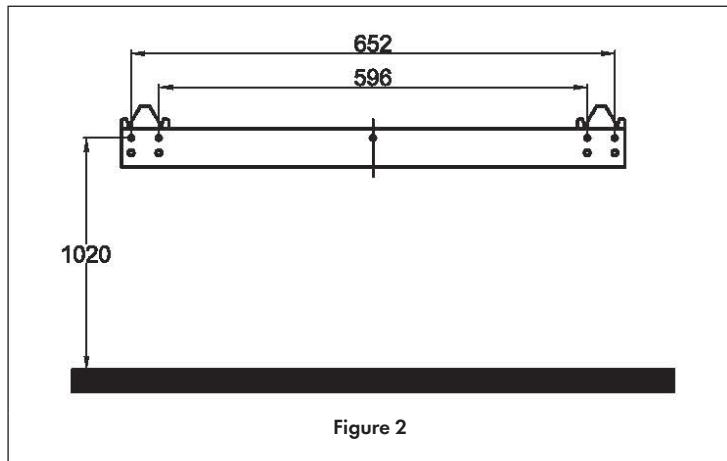

Figure 2
- A height of 60 cm from bottom of heater to floor is recommended for optimum viewing of fuel bed (see Fig. 2 for recommend fixing dimensions).
- For optimum viewing, mark the top five screws fixing positions on wall in accordance with the recommend fixing dimensions (see Fig. 2). Drill holes with a No. 6 drill bit.